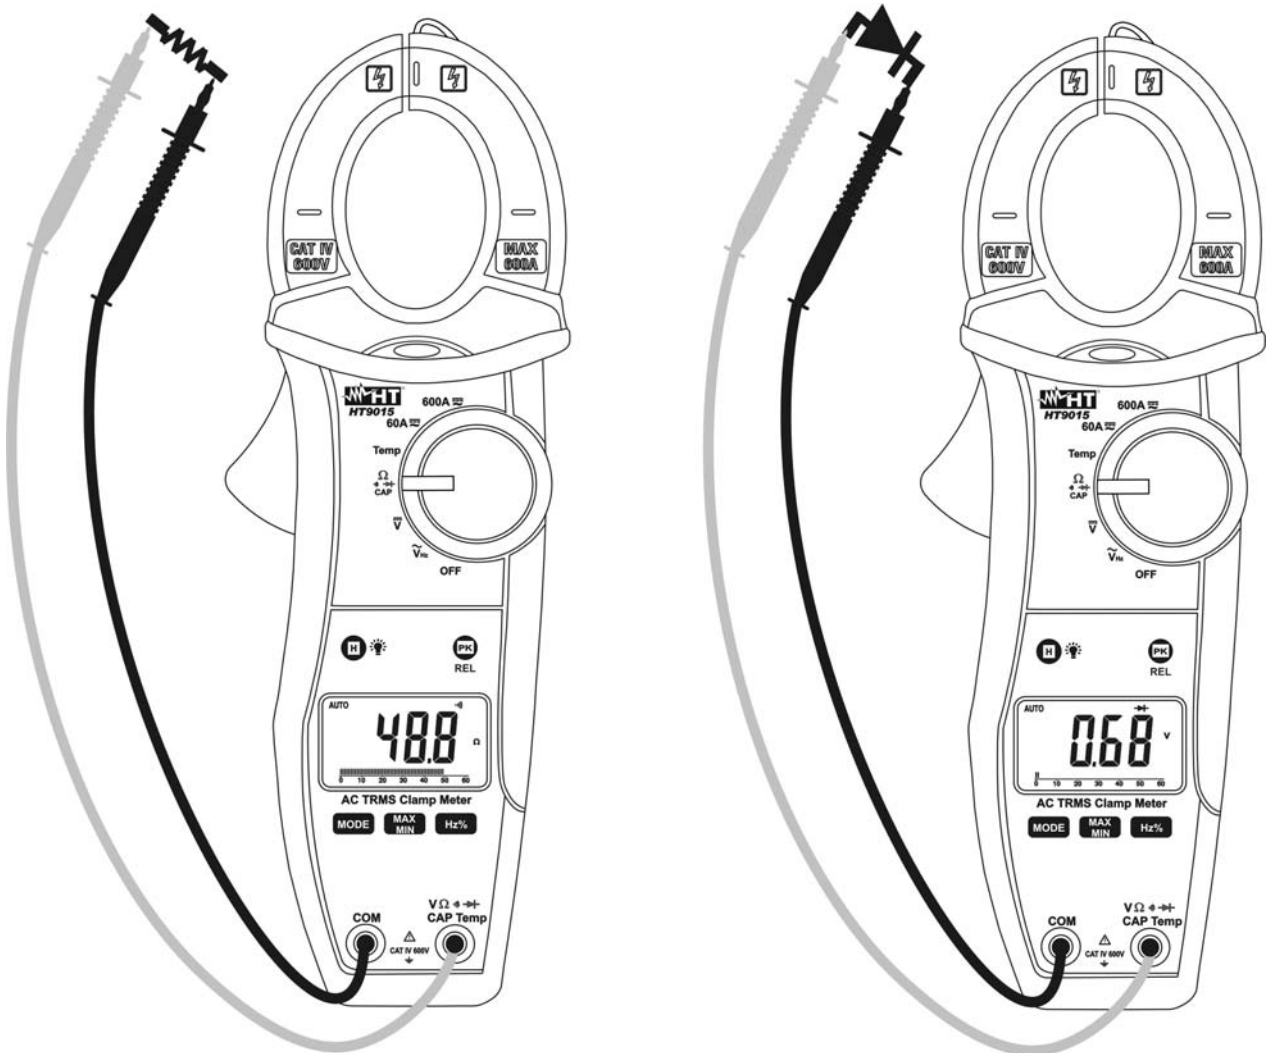

Fig. 6: Taking Continuity test and Diode test
3. Insert the red test lead plug into **V $\Omega \cdot \text{mV}$ $\rightarrow$ CAPHz%Temp** jack and the black test lead plug into **COM** jack and perform continuity test on the object under test (see Fig. 6 – left side). Buzzer emits sound if the measured resistance value is less about 60 Ω
5. Connect the red test leads to the anode of diode on test and the black test lead on the cathode ones (see Fig. 6 – right side). Reverse position of test leads to reading reverse polarization voltage